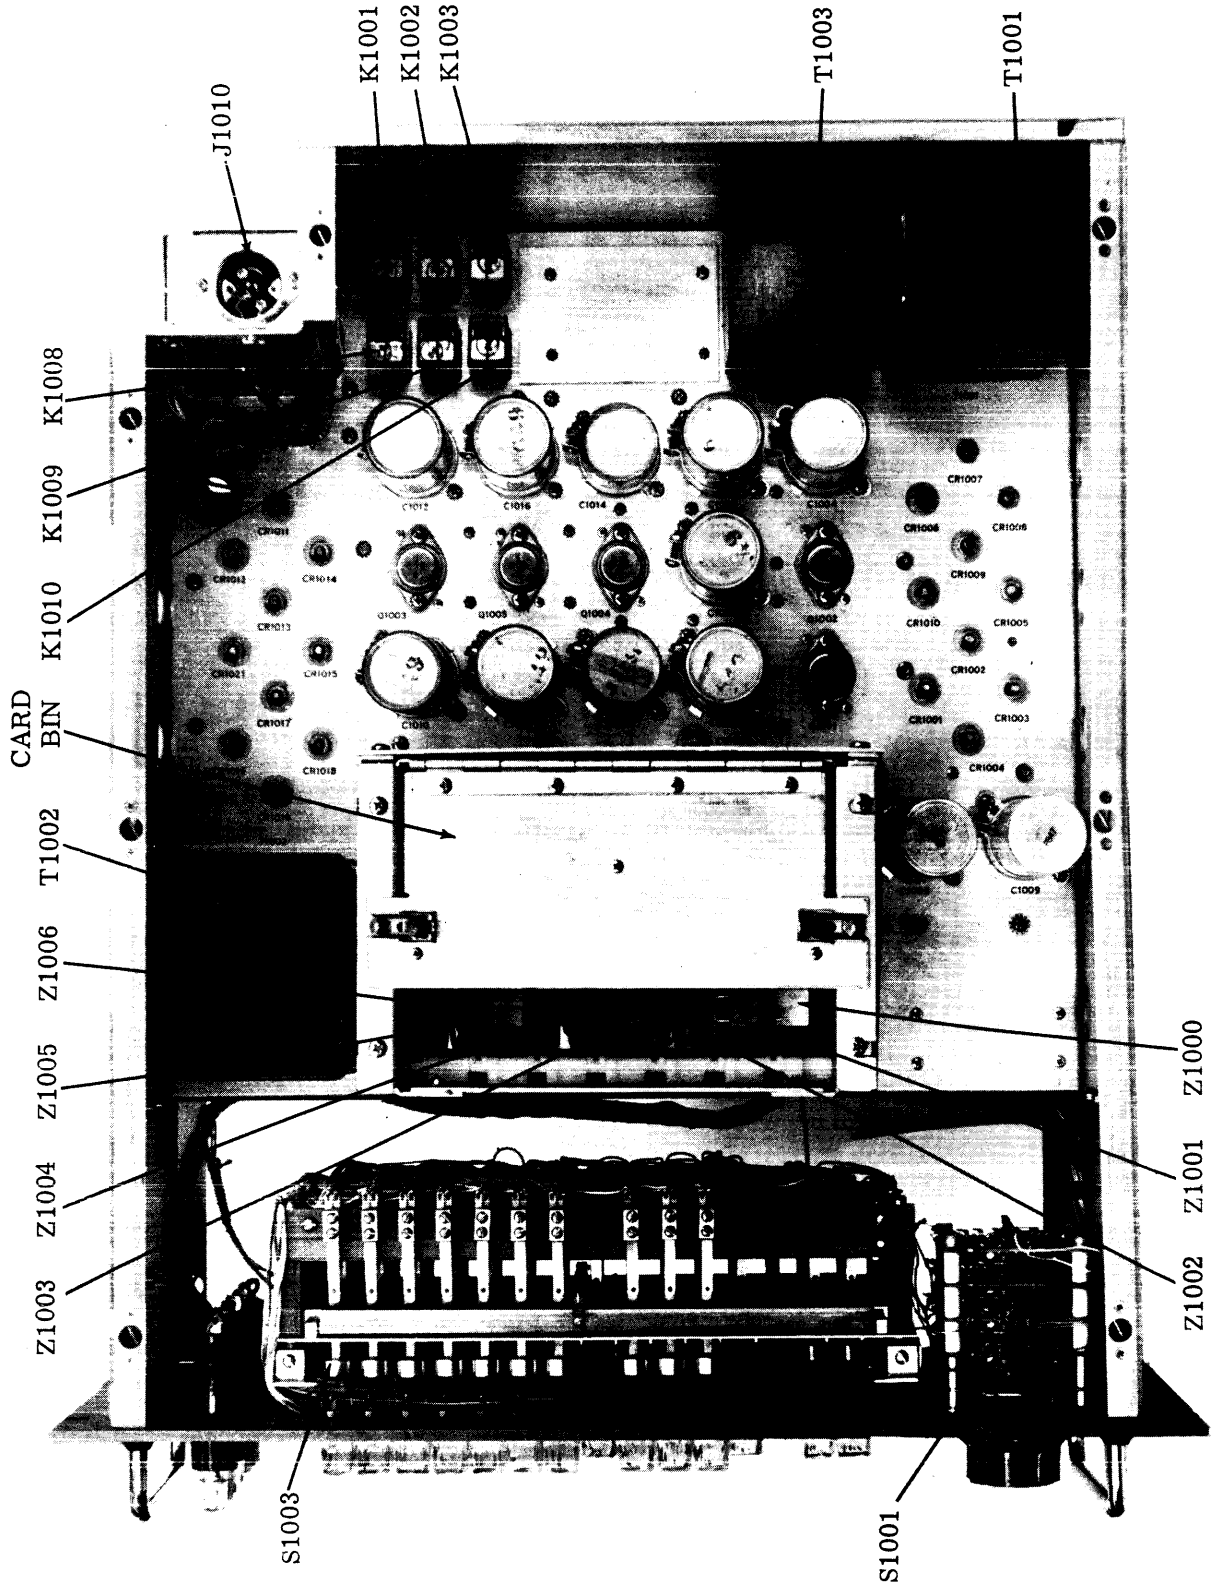
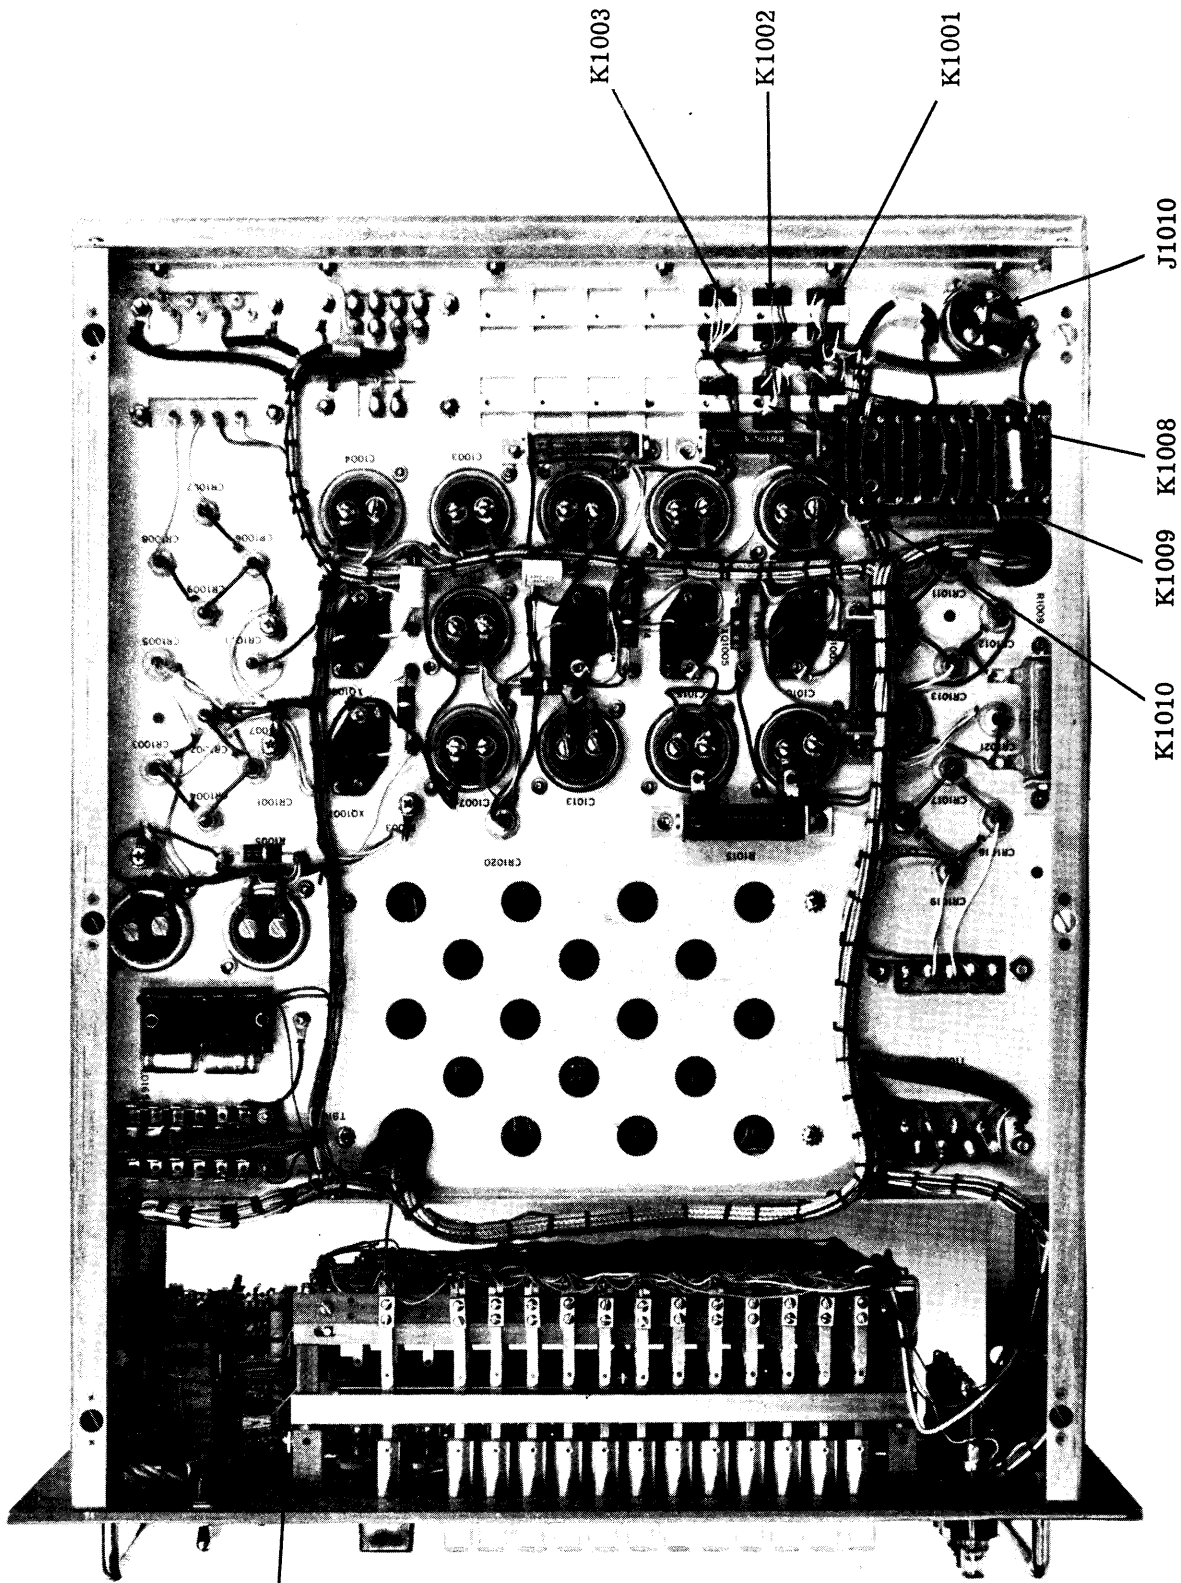

Figure 5-1. Top View, RTPA
Figure 5-2. Bottom View, RTPA
The logic circuits in the RTPA are contained on Z1000 series printed circuit plug-in cards mounted in a bin on the top side of the chassis (see figure 5-1). Terminals to the power supply section are accessible from the bottom side (see figure 5-2). The rest of the circuit components make up the keyboard and relay section. The card Z1000 numbers are the circuit reference symbol numbers; the card "A" numbers are the card assembly part numbers by which they are identified and ordered. The "A" number appears printed on the card and again on the bin wall adjacent to its receptacle, along with its "Z" number and its receptacle "J" circuit symbol number. The plug end of each card contains keying notches and its receptacle in the bin floor contains matching blocks to prevent inserting a card into the wrong receptacle. Some cards in the RTPA and in other TMC logic equipment, although they are assigned different "Z" numbers, have the same "A" numbers and are identical and interchangeable. These cards have similar keying at their plug ends and in their receptacles.
a. INTRODUCTION. - As an aid to troubleshooting, figures 7-1A and 7-1B furnish normal pulse patterns at test points (TP) on the RTMU printed circuit cards. Also included are figures 5-1 and 5-2, locating cards and major components.